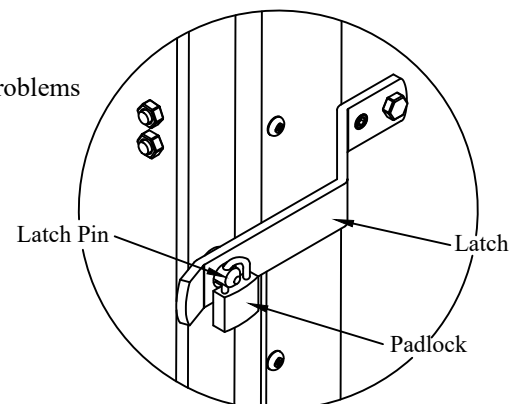

Figure 15: Padlock location.
9. **Lock** the padlock through the hole in the latch pin (Figure 15).